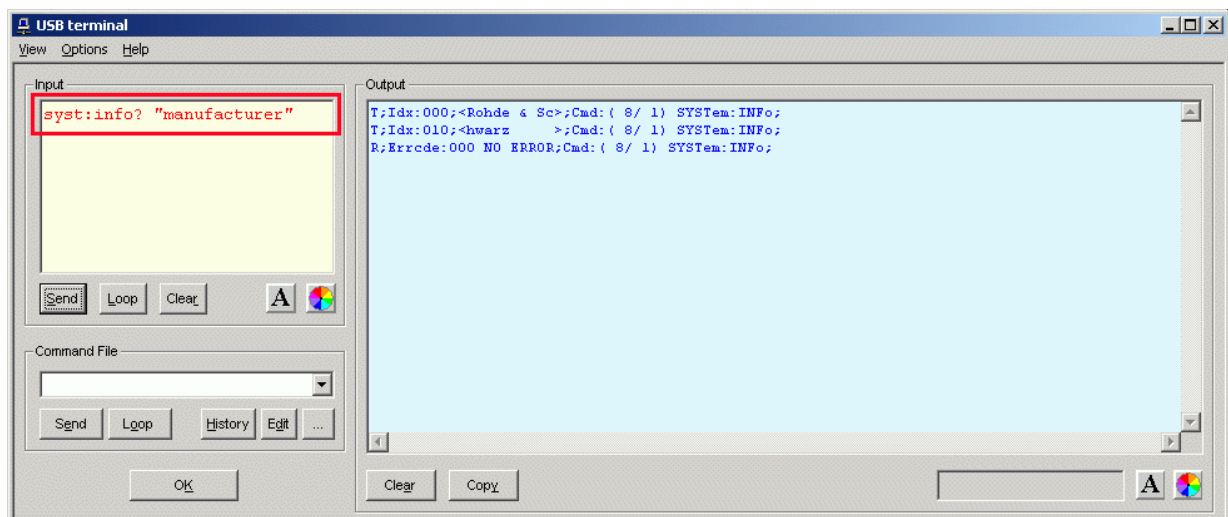

Fig. 3-1 Sending commands using the **Input** field
| Fig. 3-1 Sending commands using the Input field .....                             | 3.1  |
- Commands are entered in the **Input** field (Fig. 3-1). Consecutive commands can be entered as separate lines, one below the other. The buttons associated with the **Input** field are described in Table 3-1.